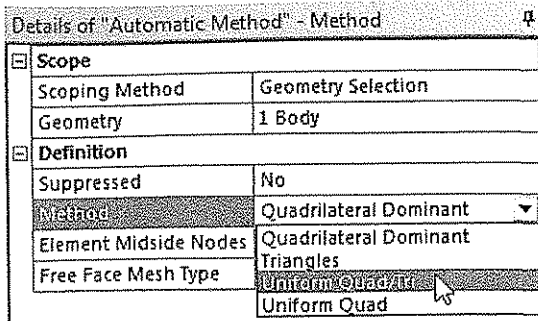

Figure 10-44 Selecting the **Uniform Quad/Tri** option from the **Method** drop-down list
- 15. In the **Details of "Automatic Method"** window, select the **Uniform Quad/Tri** option from the **Method** drop-down list, refer to Figure 10-44; the **Details of "Automatic Method"** window is replaced by the **Details of "Uniform Quad/Tri Method"** window.